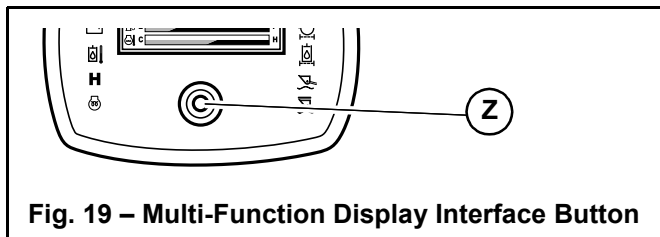
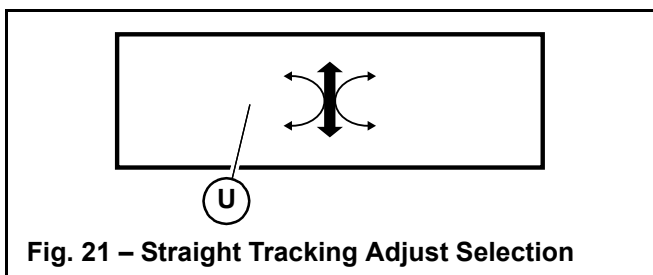
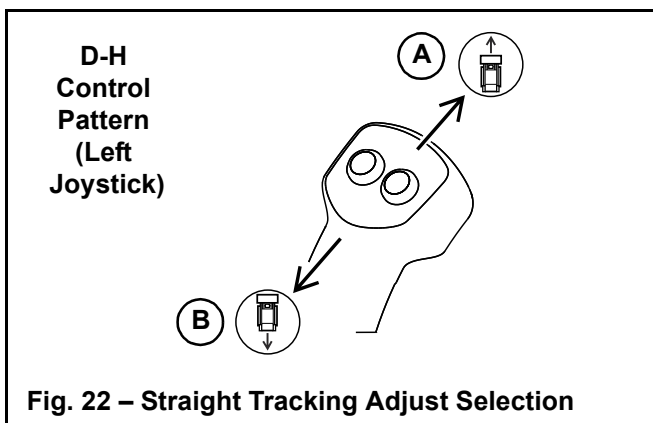

Fig. 19 – Multi-Function Display Interface Button
Fig. 21 – Straight Tracking Adjust Selection
Fig. 22 – Straight Tracking Adjust Selection
4. Press and hold the interface button (Z, Fig.19) on the display for 5 seconds.
6. Press and hold the interface button for 5 seconds to display the straight tracking adjust screen (U, Fig.21).
- **Forward direction** – While holding left joystick (A, Fig. 22) fully forward, move the joystick either slightly left or right as required until the machine is tracking straight. With the joystick held in this position, press and hold interface button (Z, Fig.19) for 2 seconds until the straight tracking screen (U, Fig.21) is dismissed.
- **Reverse direction** – While holding the left joystick (B, Fig. 22) fully back, move the joystick either slightly left or right as required until the machine is tracking straight. With the joystick held in this position, press and hold the interface button (Z, Fig.19) for 2 seconds until the straight tracking screen (U, Fig.21) is dismissed.